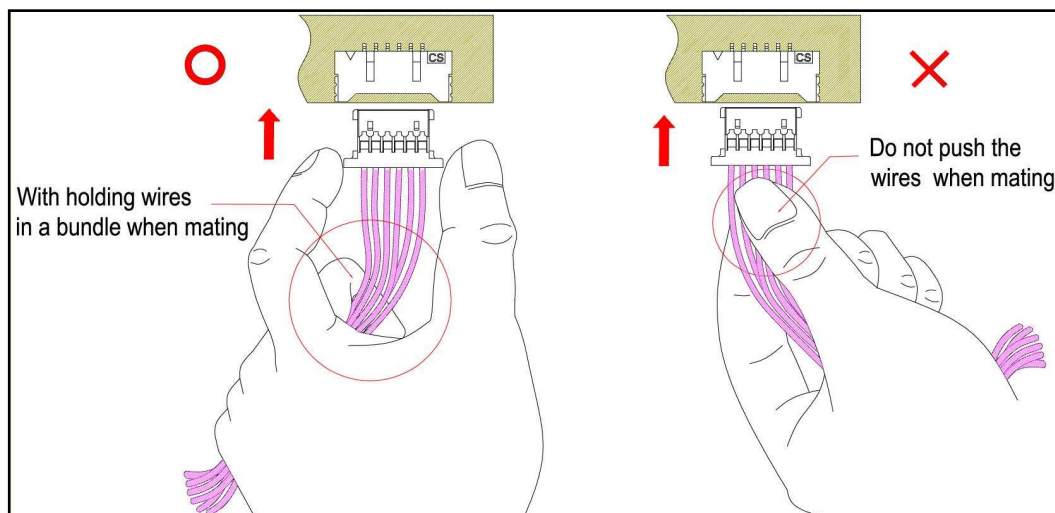

figure 3.3
- ※ Make allowance so that the power of more than the tension by bending the Wire is not applied to the connector when handling the wire. In mating operation, mate a connector with holding wires in a bundle on the same axis to mating axis. (see figure 3.3)